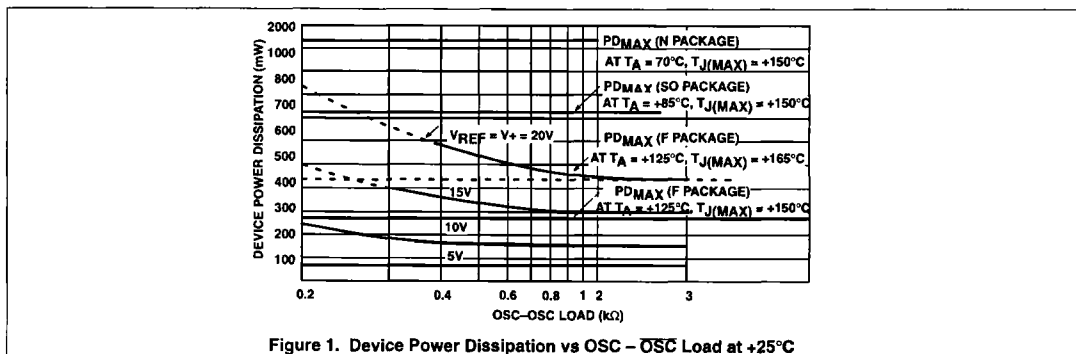

Figure 1. Device Power Dissipation vs OSC - OSC Load at +25°C
1. For derating, see typical power dissipation versus load curves (Figure 1).